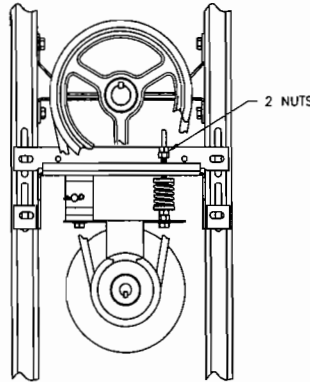

Figure 6
7. Replace the belt. The base of the motor should be level as shown in Figure 6. If not, adjust the motor base so that the base of the motor is level.